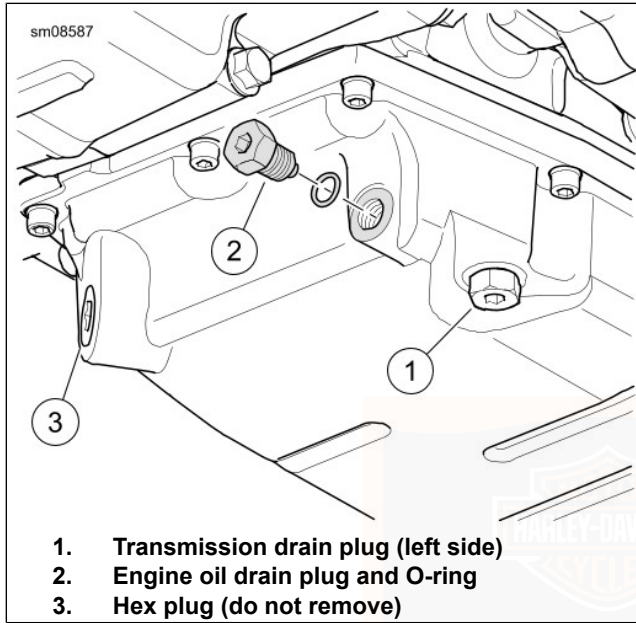

Figure 92. Oil Pan
3. See Figure 92. Remove the oil drain plug (2) and O-ring. Allow oil to drain completely.